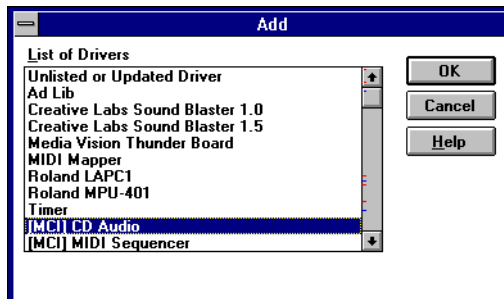

Figure 3-6: The Add dialog box.
4. Choose Add... from the Drivers dialog box. The Add dialog box similar to Figure 3-6 appears.